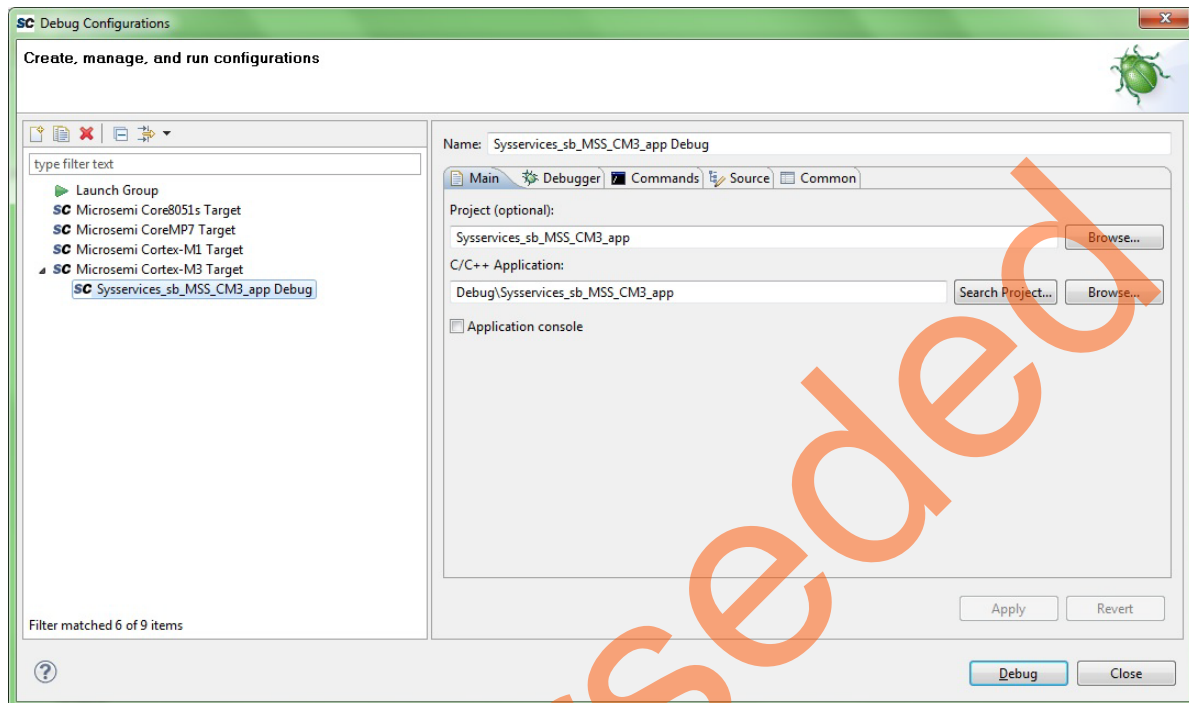

Figure 35 • Debug Configurations Window
15. Select **Debug Configurations** from the **Run** menu of the SoftConsole. The **Debug** dialog box is displayed. Double-click on **Microsemi Cortex-M3 Target**. This displays a window similar to Figure 35.